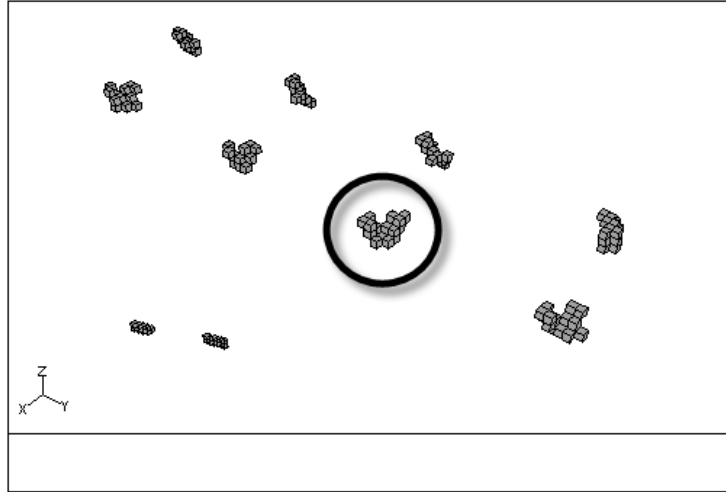

Figure 7.19: Potential Holes in region:1
4. Click Draw in the Fix Holes group box in the Region tab of the Boundary Wrapper panel (Figure 7.19).
- (b) Click on the hole highlighted in Figure 7.19 using the right mouse button.